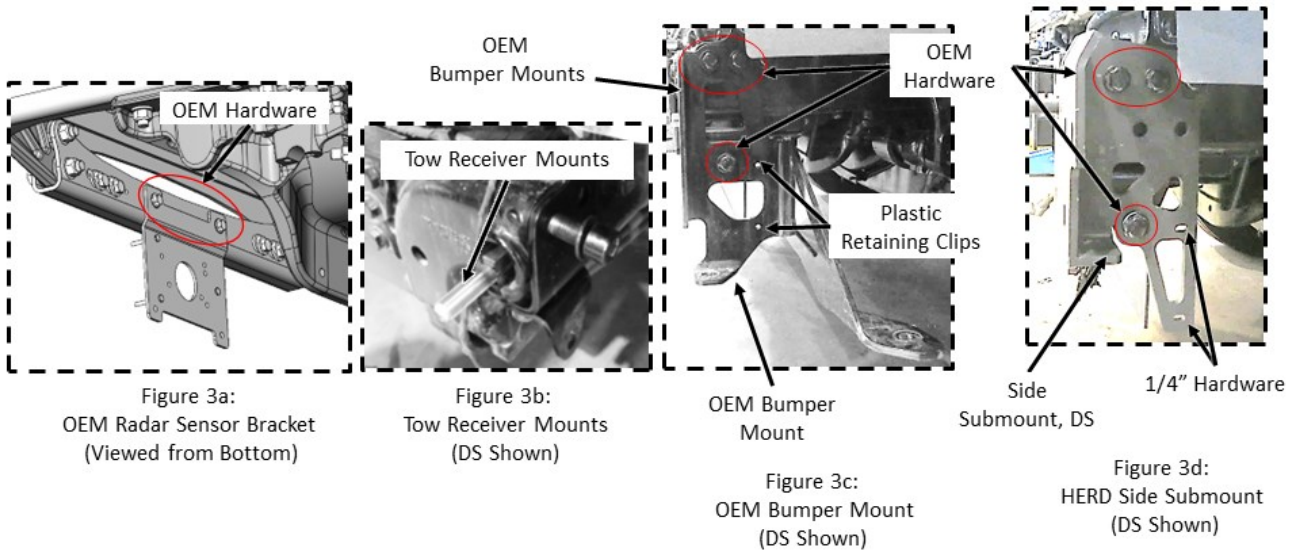

Figure 3a:
1. If the truck is equipped with Collision Avoidance System (CAS), disconnect the Radar Sensor, and remove the Radar Sensor Bracket as shown in Figure 3a. Retain the Radar Sensor and hardware for later use.